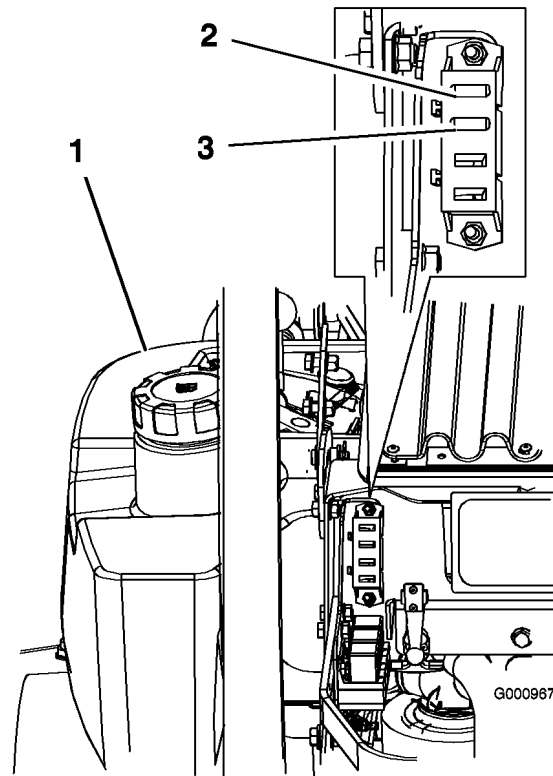

Figure 47
1. Unlatch the engine hood and raise the engine hood to gain access to fuse holder (Figure 47).
3. Install a new fuse (Figure 47).